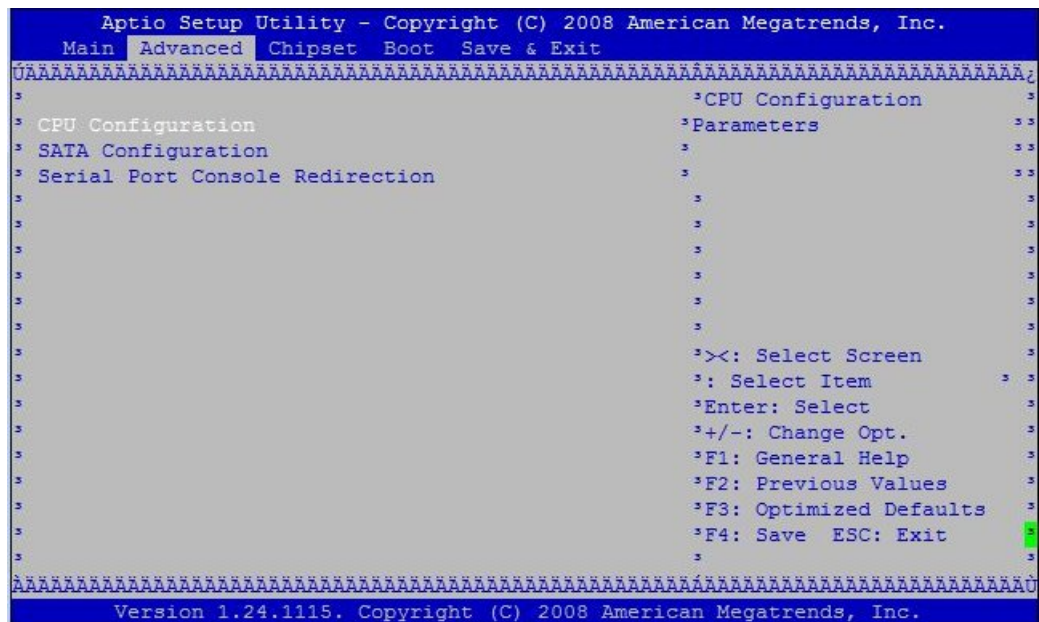

Figure 14 Advanced Window
9. Use the arrow keys to navigate to the **Advanced** menu, see Figure 14.